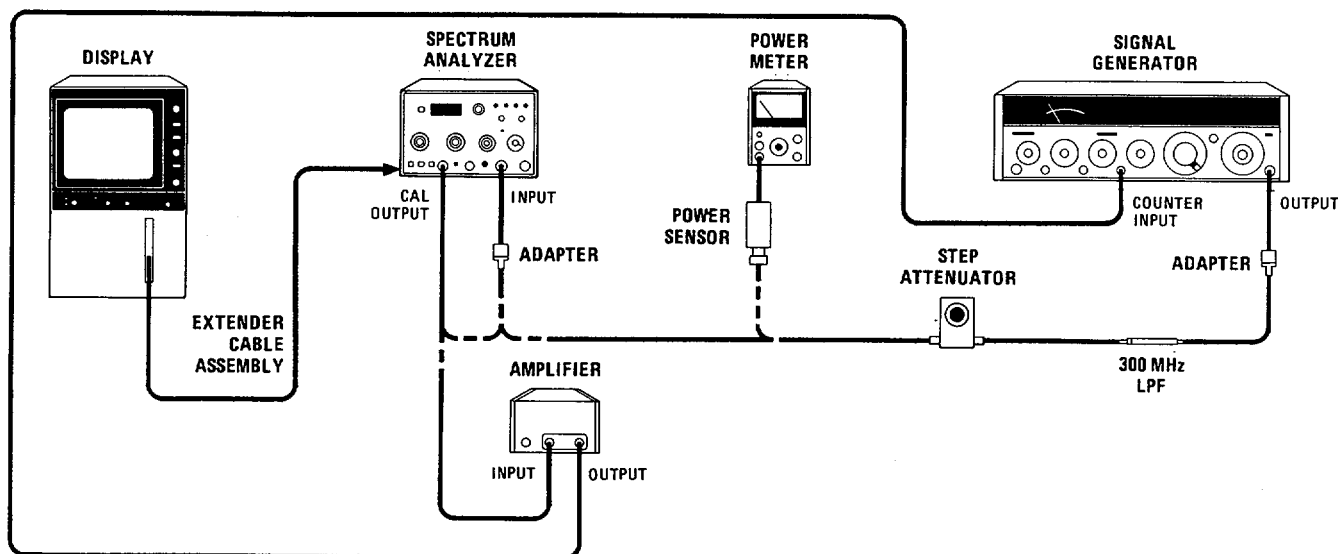

Figure 5-3. Third Converter LO and CAL OUTPUT Adjustment Test Setup
2. Connect equipment as shown in Figure 5-3. Connect CAL OUTPUT to INPUT 50( connector.
7. Connect power sensor and power meter to step attenuator as shown in Figure 5-3.